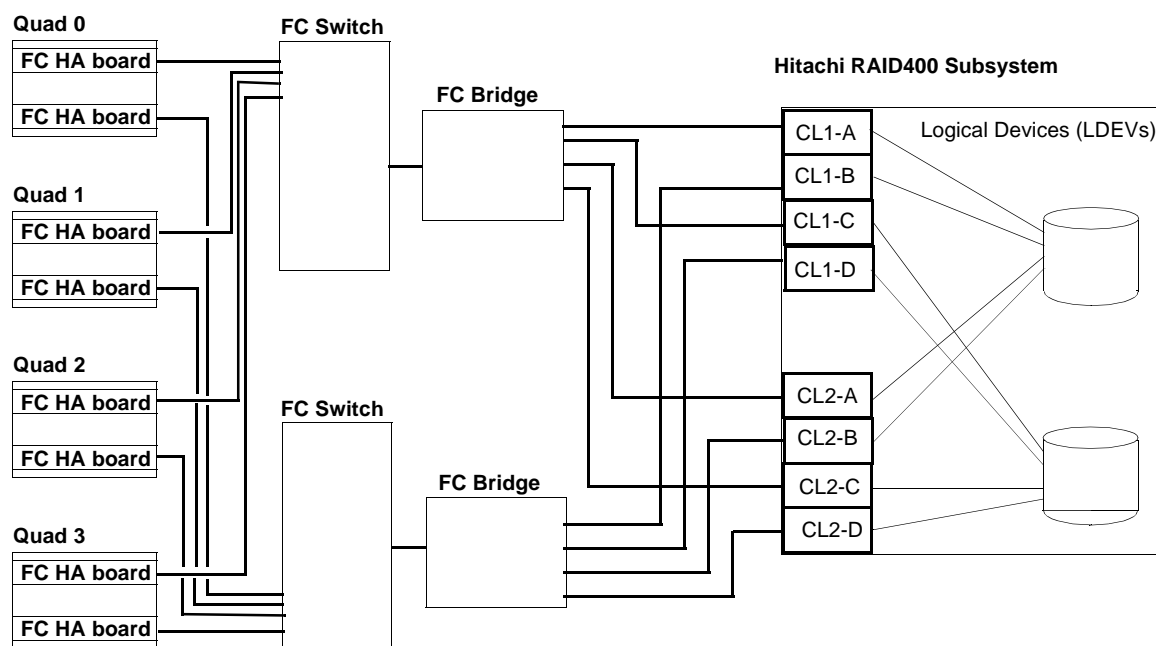

Figure 5-4.
- Figure 5-4 shows cabling for a typical FCB SCSI connection to an IBM NUMA-Q host system.